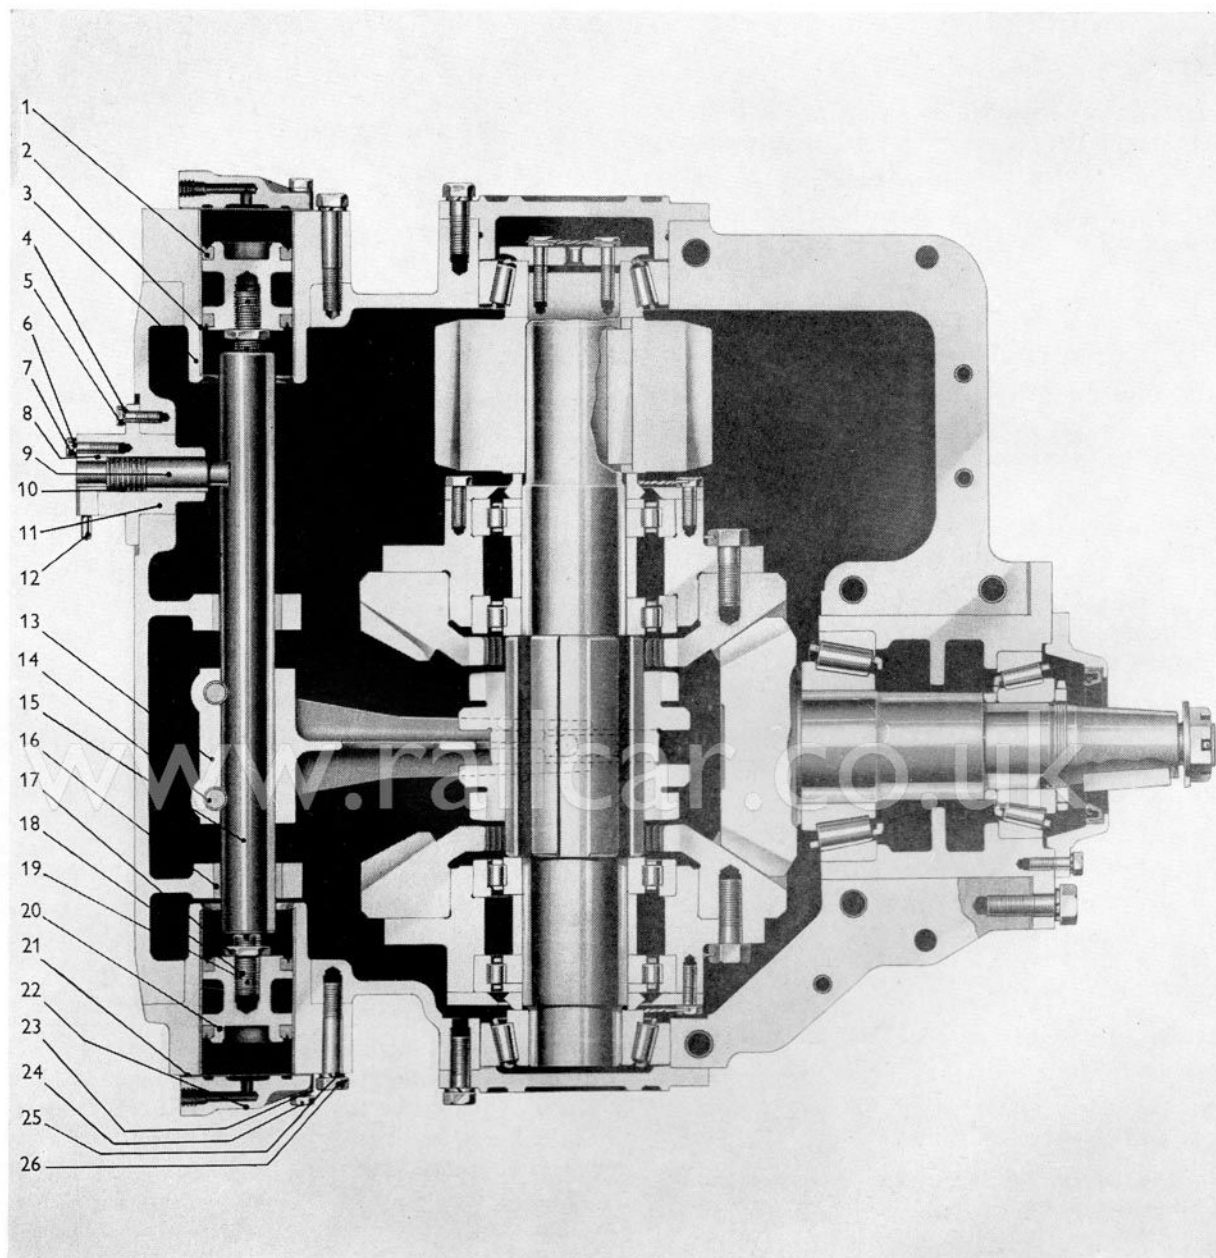
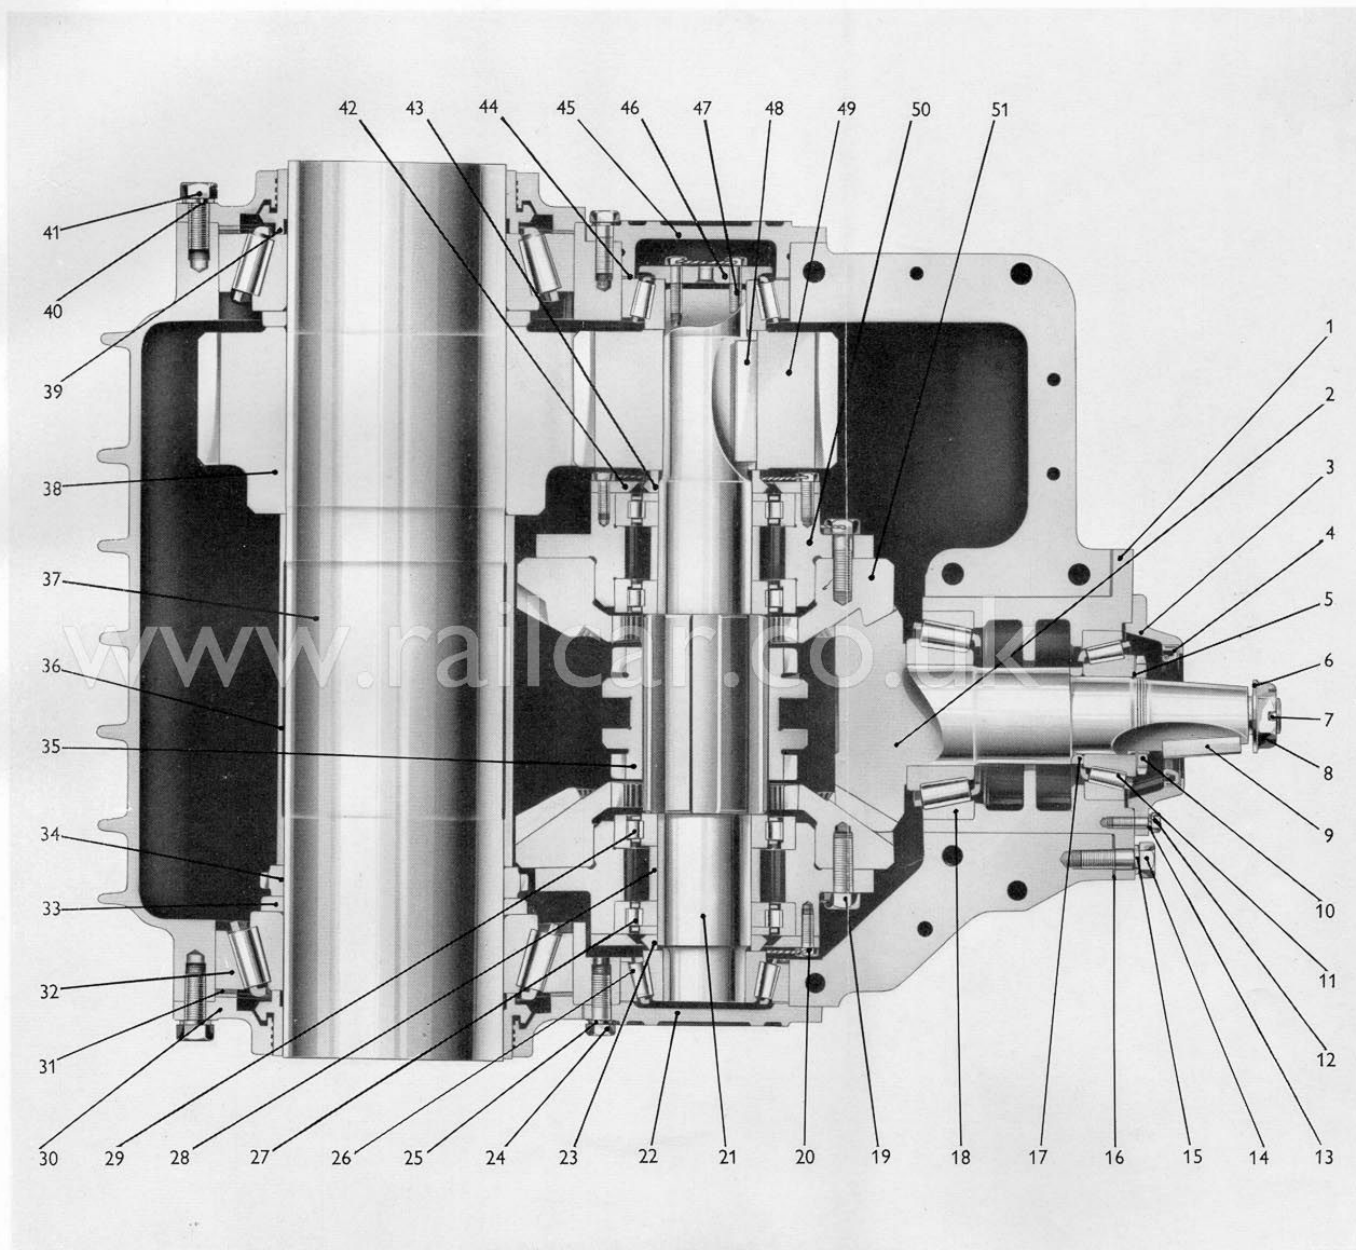

Fig. 5. Selector Mechanism
Fig. 6. Sectional Elevation through Final Drive
**Sect. X3.****SELECTOR MECHANISM***(See fig. 5).*
### To Renew the Piston Seals (See fig. 5).
#### Selector Mechanism (See fig. 5).
Remove all the bolts securing the top portion (Fig. 1, Item 8) to intermediate portion of gearcase (Fig. 1, Item 7). Remove the bolts (Fig. 6, Items 14 and 24) and spring washers from the top shaft end covers (Fig. 6, Items 22 and 45), and input bevel housing (Fig. 6, Item 1). Three bolts should be left in the bottom of the top shaft end covers, secured in position to retain the shims and outer races, whilst the top portion of gearcase (Fig. 1, Item 8) complete with the oil distribution pipe is lifted away. Remove the dog shifting fork assembly (Fig. 5, Item 13), top shaft (Fig. 6, Item 21), and input bevel housing assembly (Fig. 6, Item 1). Remove the remaining bolts from the end covers (Fig. 6, Items 22 and 45), keeping shims and outer races together. It is not advisable to dismantle these assemblies as they have been carefully adjusted to give correct clearances for the bearings and bevels.
Withdraw all the bolts securing the intermediate portion (Fig. 1, Item 7) to bottom portion (Fig. 1, Item 6) of the gearcase. Remove bolts (Fig. 6, Item 41) and spring washers (Fig. 6, Item 40) from the
bearing thrust plates (Fig. 6, Item 30). Two bolts should be kept lightly secured in position on the bottom of each thrust plate to retain the shims (Fig. 6, Item 31) and outer races (Fig. 6, Item 32) in position, whilst the intermediate portion of casing is lifted away.
**Gearcase Bottom Portion** (See *fig. 6*).
Re-fit the intermediate portion of the gearcase (Fig. 1, Item 7) on to the bottom portion, locating with the hollow dowels. The axle half shims (Fig. 6, Item 31) can now be replaced, and the bearing thrust plates (Fig. 6, Item 30) secured in position. Check axle end float (See running Gear Assembly Dimensions). Re-fit the oil pump assembly (See Fig. 2) into the bottom portion of the gearcase and secure in position, ensuring that there is backlash between the pump driving gear (Fig. 6, Item 34) and the pump gear (Fig. 2, Item 19).
Replace the torque arm bracket (Fig. 1, Item 5) ensuring that it is perfectly square in relation to the machined surface of the intermediate portion of the gearcase. The top shaft assembly end cover (Fig. 6, Item 22) and (Fig. 6, Item 45) can now be replaced on to the intermediate portion of gearcase, and lightly secured in position with three bolts (Fig. 6, Item 24).
the dog shifting fork pads which are located in the grooves, in the sliding dog (Fig. 6, Item 35) on the top shaft assembly. Locate top portion with the hollow dowels, replace bolts and secure in position. Finally secure into position the top shaft end covers and input bevel housing and note that the letters S.C.G. on all end covers are kept in an upright position, as this ensures that the lubrication ports in the cases and covers are in alignment.